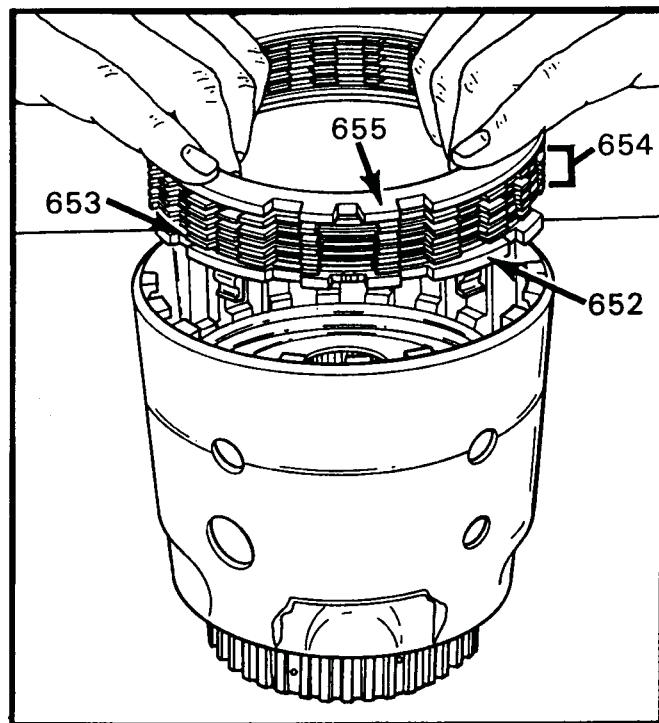

Figure 109
4. Remove the entire 3-4 clutch pack, as shown in Figure 109.